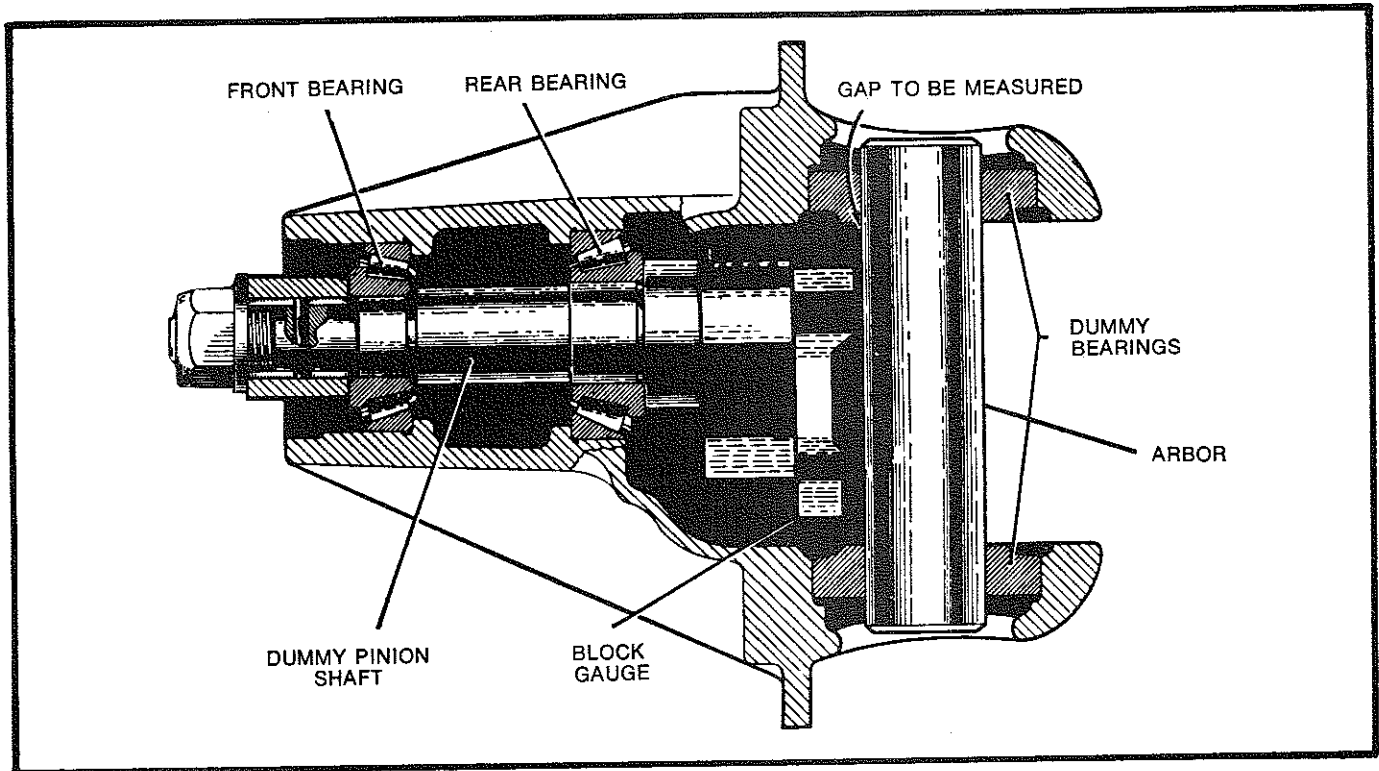

Fig. 20—Drive pinion height adjustment.
(1) Install the drive pinion front and rear bearing outer races in the housing ensuring they are correctly seated.
(2) Locate the rear bearing on the dummy pinion and install the pinion in the housing.
(3) Install the front bearing, spacer and nut to the pinion and tighten the nut until a turning torque of 0,68 to 1,02 Nm (6 to 9 lb./in.) is obtained.
(4) Place the crossbore arbor and dummy bearings in the housing, install the bearing caps and tighten lightly.
(5) Position the gauge block as shown in Fig. 20, then measure the gap between the block and the arbor using a set of feeler gauges.
(6) Select the pinion height adjusting shim using the following method.